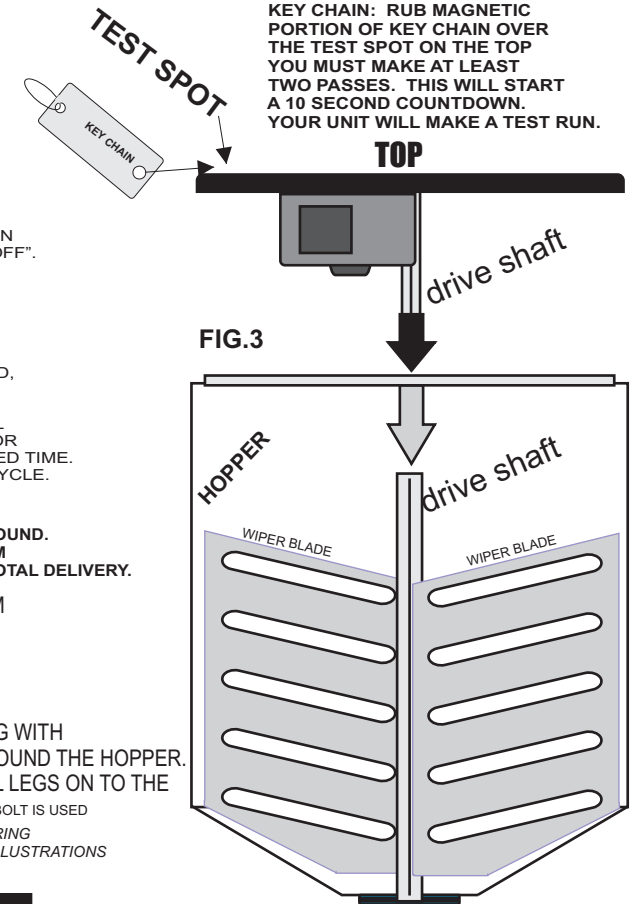

FIG.3
STEP 6. AFTER PROGRAMMING, RE-INSTALL THE TOP ASSEMBLY AS IN FIG.3. MATCH THE DRIVE SHAFT OF THE TOP ASSEMBLY TO MATCH THE DRIVE SHAFT OF THE HOPPER. THE DRIVE SHAFTS SLIDE TOGETHER. YOU MAY ROTATE THE TOP TO LINE UP THE SQUARE SHAFT TO FIT INSIDE THE MATING SHAFT. SLIDE THE TOP DOWN TO FIT THE TOP OF THE HOPPER. SECURE THE TOP USING THE LEVER LOCKING STEEL BAND AS SHOWN IN FIG.1.